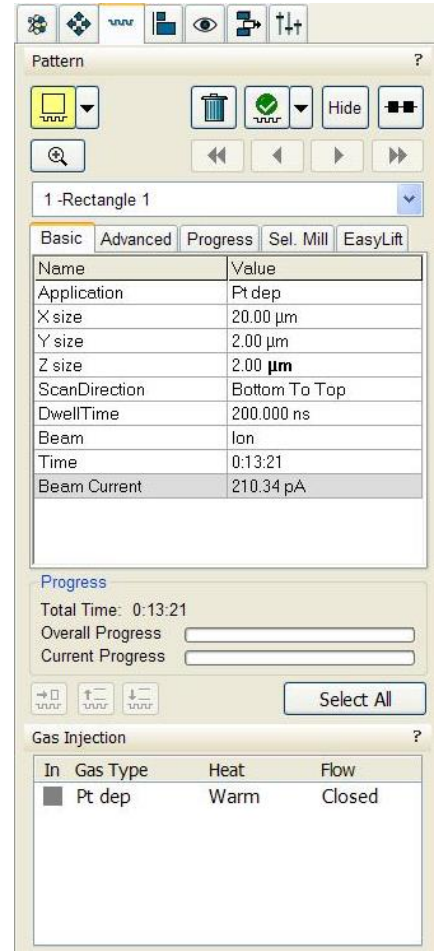

Figure 13
3. Draw rectangular pattern in Ebeam quadrant and choose **Pt e-dep surface** in **Pattern>Basic>Application** (Figure 13), pattern should be in green color, make sure the pattern is slightly wider than area of interest. Choose depth to be 0.1 um. Make sure the GIS is in **Warm** status (bottom panel in Figure 13).
2. Draw rectangular pattern in Ibeam quadrant and choose **Pt Dep** in **Pattern>Basic>Application** (Figure 13), pattern should be in green color, make sure the pattern is slightly smaller than the existing Pt layer. Choose the depth to be 0.5-2 μm .